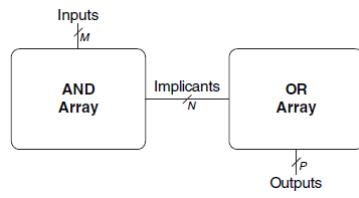

Figure 5.59  $M \times N \times P$ -bit PLA
**Programmable logic arrays (PLAs)** implement **two-level** combinational logic in sum-of-products (SOP) form. PLAs are built from an AND array followed by an OR array, as shown in Figure 5.59. The inputs (in true and complementary form) drive an AND array, which produces implicants, which in turn are ORed together to form the outputs. An  $M \times N \times P$ -bit PLA has  $M$  inputs,  $N$  implicants, and  $P$  outputs.